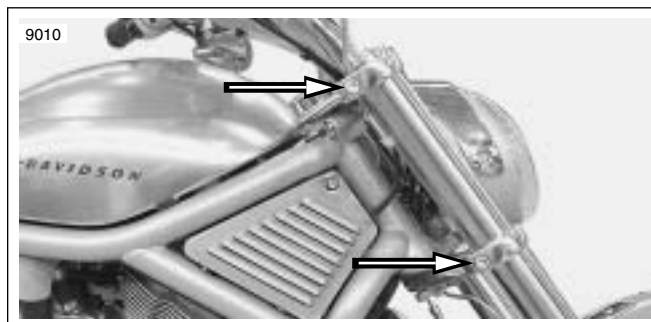

Figure 1-52. Pinch Bolts
5. See Figure 1-52. Loosen fork stem bracket pinch bolts.